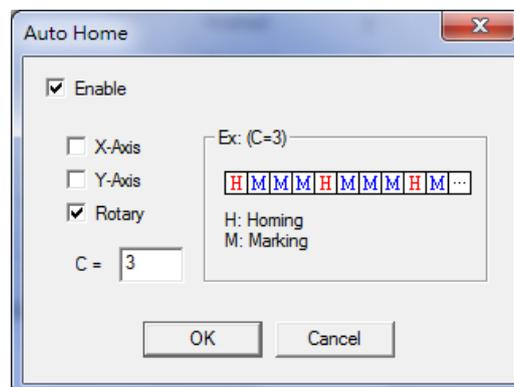

Fig. 1.6.04
**Auto Home:** Click this button and a dialog box will appear like Fig. 1.6.04. Check the "Enable" box to allow users to select the axis which is using and set "C" value. C means that the selected axis will do home automatically after marking specific times. Take C=3 for example, the system will do home at the beginning of marking and then after 3 times of marking, the system will do home again. If enable this function, then